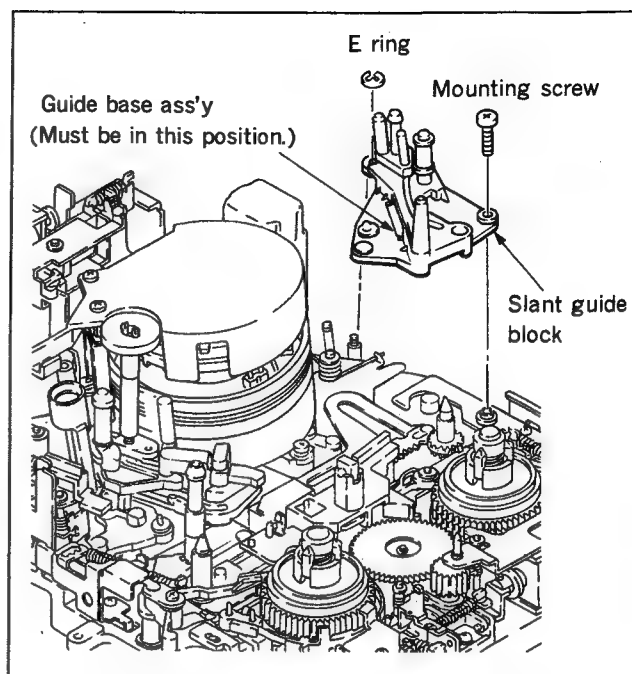

Fig. 4-12-4 Slant guide block replacement/installation
- 1) Hold the guide base ass'y of the replacement slant guide block at the unthreaded end (i. e. guide base ass'y is positioned to the reel table side shown in the figure), then set it on the mechanical deck. (Fig. 4-12-4)